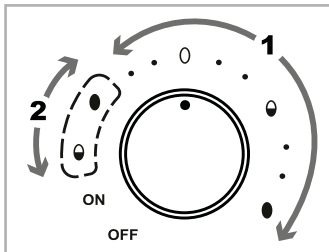

Fig. 1
- 1) Turn the control dial **7** to the position that corresponds to the desired hardness of the eggs. Use the setting range "1" (see fig. 1) with symbols and corresponding dots in front of it:
For the first cooking process, the setting range "1" with symbols and corresponding dots in front of it applies. For the second cooking process, the setting range "2" with symbols outlined by dashes applies (see fig. 1).
- 2) Set the control dial **7** to the position that corresponds to the softest degree of hardness of the eggs (the setting range "1" applies, see fig. 1).
- 5) Replace the lid **2** and turn the control dial **7** to the position of the symbols outlined by dashes (setting range "2", see fig. 1) corresponding to the desired hardness level for the eggs left in the appliance: